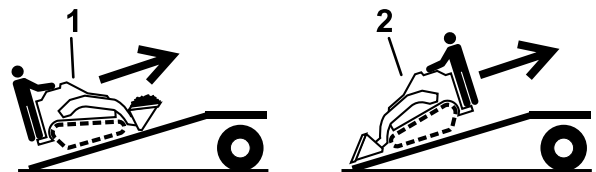

Figure 36
5. Load the machine onto the trailer with the heavy end up the ramp, carrying loads low (Figure 36).